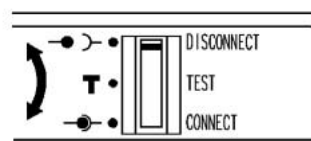

Fig. 11-7
④ Keeping the OFF button pushed, insert the drawout handle. Make sure that the drawout position indicator shows "DISCONNECT" (Fig. 11-7).